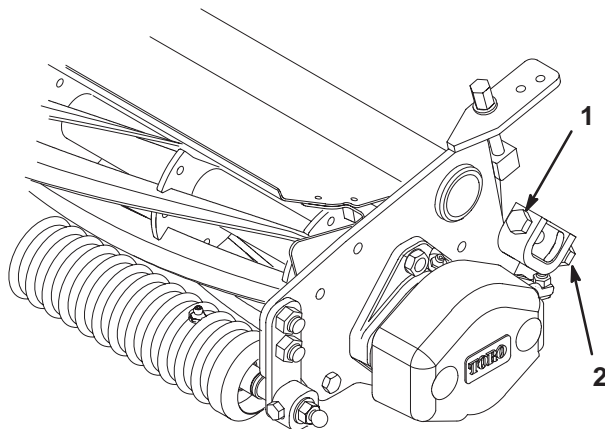

Figure 2
2. Move the bedknife closer to the reel blades by loosening the bottom adjusting screw (Fig. 2) on each side of the cutting unit, then tighten the top adjusting screw (Fig. 2) on each side of the cutting unit.